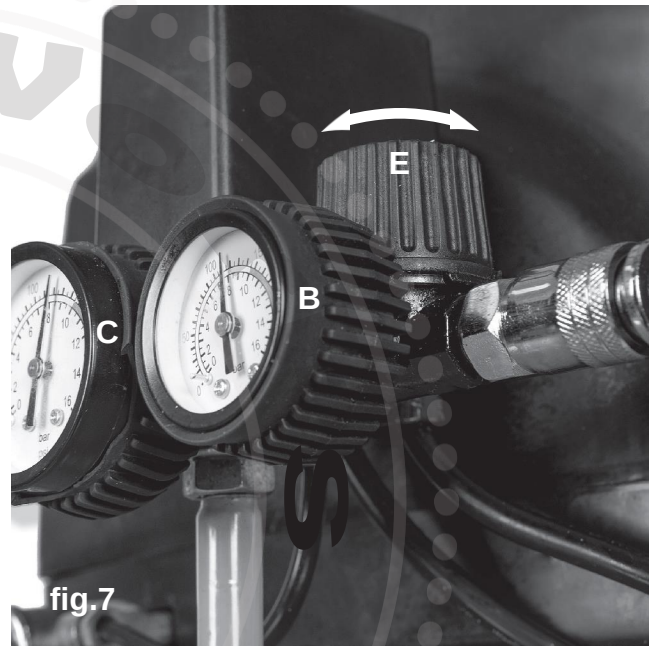

fig.7
- To increase air pressure, turn air regulator knob (fig.7,E) clockwise.
- Use the outlet pressure gauge (fig.7,B) to see the resulting pressure.